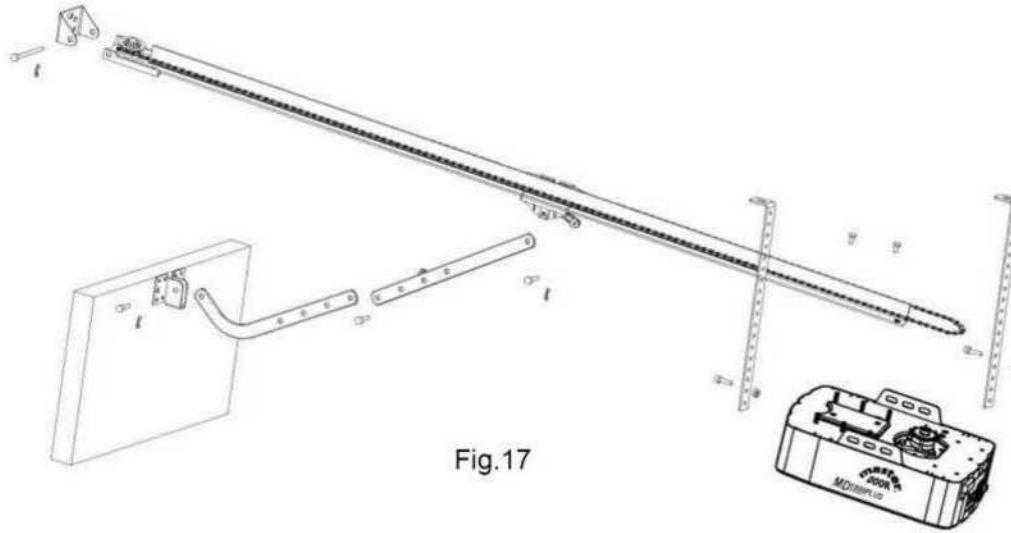
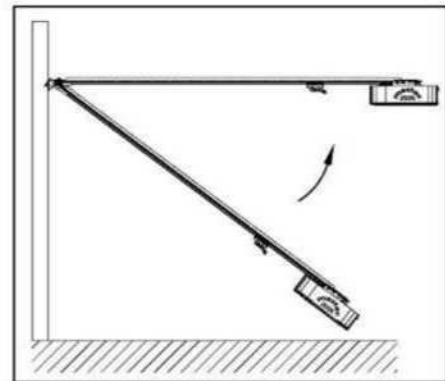

Fig.17
Fig.18
1. (Fig. 17)
2. (Fig. 17)
3. (Fig. 17, Fig.18)